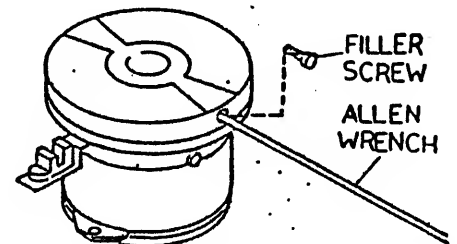

Figure 3-30
7. Remove filler screw from side of damper. (See Figure 3-30).